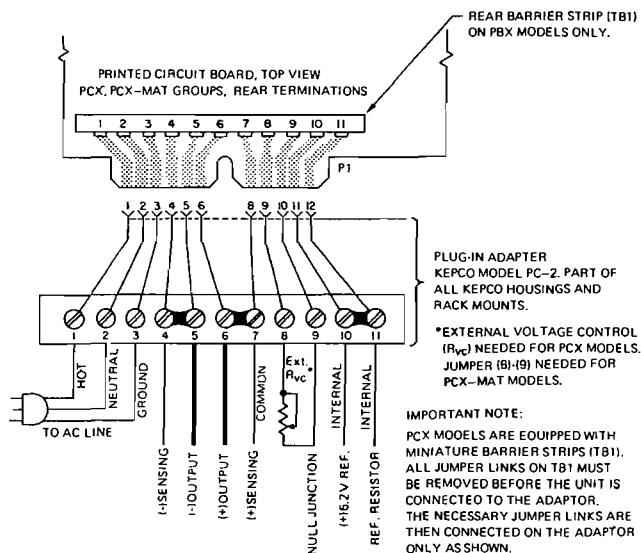

FIG. 2-2 REAR TERMINATIONS,
- b) REAR: Refer to FIG. 2-2.
- b) PCX-MAT MODELS. Connect to mating device (either one of the accessories described in paragraph 1-8) and to AC power line. Turn AC POWER SWITCH "on" (Refer to FIG. 2-2 for the location of the front panel controls). AC LINE INDICATOR light (part of AC POWER SWITCH) should energize. Turn VOLTAGE CONTROL slowly clockwise and observe the increase of the output voltage on the panel meter (M101). The output should increase smoothly from zero to the maximum rated output voltage of the model under test. Shut AC POWER SWITCH "off". This concludes the preliminary check-out.